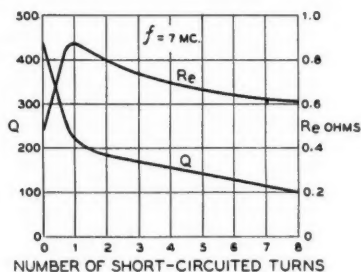
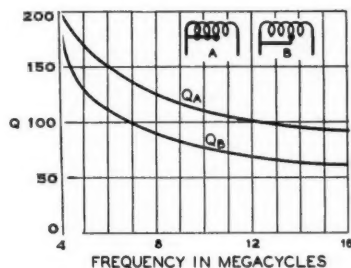

Figure 1.
Figure 2.
Figure 1 shows the behavior of a 12-turn coil of 3/16" solid aluminum wire¹ when operated at 7 Mc. while various turns were short circuited. The reason for the large drop in Q as the turns were short circuited is the increase it causes in the effective resistance of the inductance. These short-circuited turns are in the magnetic field of the coil and thus have a voltage induced in them. This voltage gives rise to a current flowing in the short-circuited turn which is dissipated in its resistance. This loss is usually represented by saying that the effective resistance of the inductance has been increased. It will be observed on the graph that the total effective resistance of the coil increases sharply at first, but then decreases slowly. This decrease in the effective resistance is caused by the fact that as the turns are short circuited more of the ohmic d.c. resistance is shunted out and this is a considerable part of the effective resistance. It will be observed that the trend of Q is always downward, and that the greater part of the decrease occurs as the first turn is shorted.
The test made in figure 1 is now quite the same problem that we have when a coil is used to cover two or more bands with the same condenser. In the above tests the coil was retuned to the same frequency each time a turn was shorted. The data shown in figure 2 show how the Q changes when a coil is made to tune to various frequencies with the same setting of the condenser, the tuning being accomplished by adjusting the inductance by short circuiting the turns. It may be noted that the maximum Q is only 200 compared with 420 for the coil of figure 1. This is partly due to the lower frequency (4 compared to 7 Mc.) and partly due to the fact that in the second case, the coil was made of much smaller wire, no. 18 instead of 3/16" solid. One of the most interesting features of figure 2 is the difference in the value of Q which results from making a continuous soldered short circuit across all the turns shorted (A), and the use of a clip-lead jumper around several turns at once (B). It is seen that when going from 4 to 7 Mc. the reduction in Q in the first case is only 33